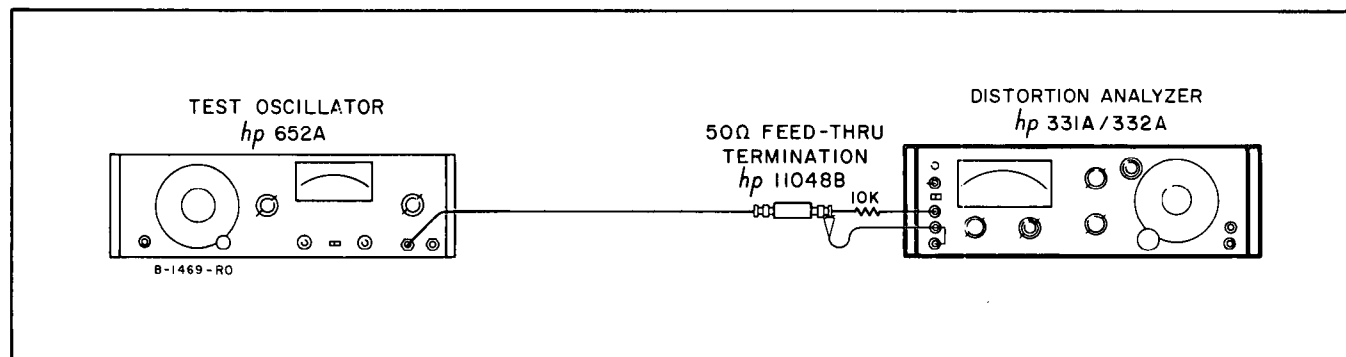

Figure 5-4. Capacitance Check
- a. Connect 50 Ω output of test oscillator, terminated in 50 Ω load, and 10 k Ω resistor to 331A/332A as shown in Figure 5-4. Connect resistor lead to INPUT terminal of 331A/332A, and insert other lead directly into 50 Ω load. Connect ground lead from 331A/332A to outer shield of 50 Ω load; do not use an adapter, as it would add capacitance.